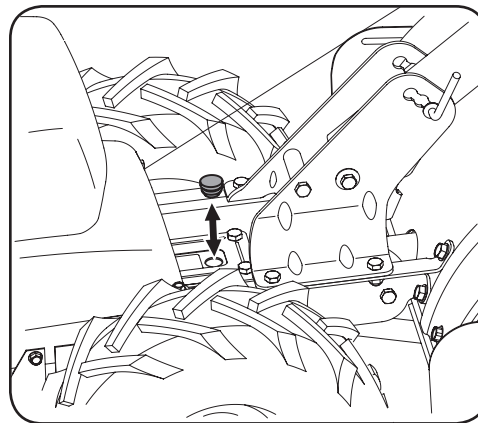

Figure 5-1
3. Remove the oil fill plug from the transmission housing and look inside the oil fill hole to locate the main drive shaft situated below the hole. See Figure 5-1.